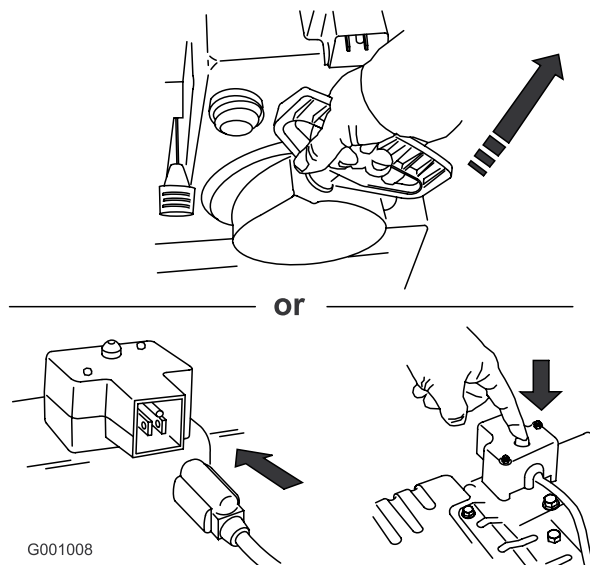

Figure 30
7. Start the snowthrower using the recoil starter or the electric starter (Figure 30).